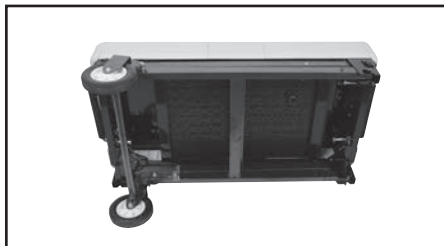

FIGURE 5
3. Lay the saw on its side on the ground (Fig 5).